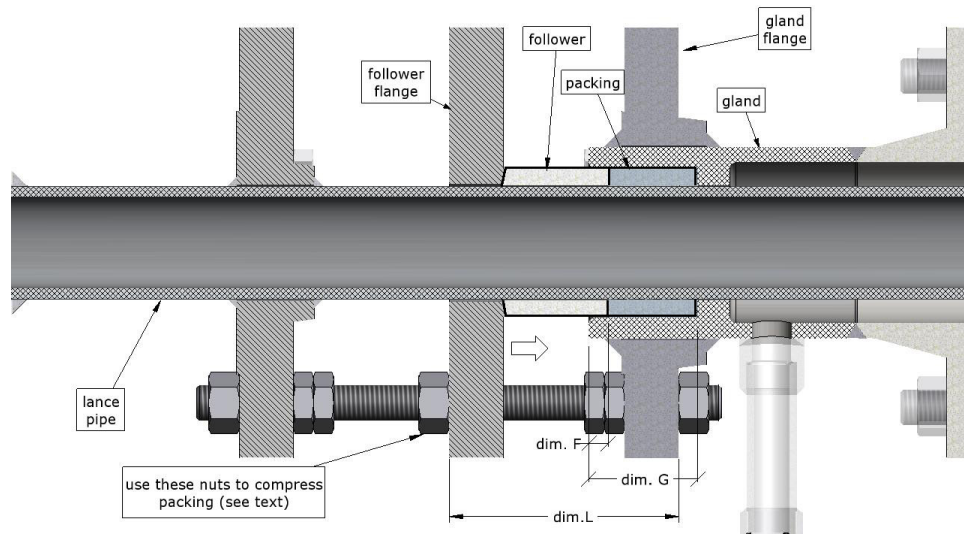

Figure 4: The packing gland
6. Refer to Figure 4. Measure and record the depth of the gland as dimension G.